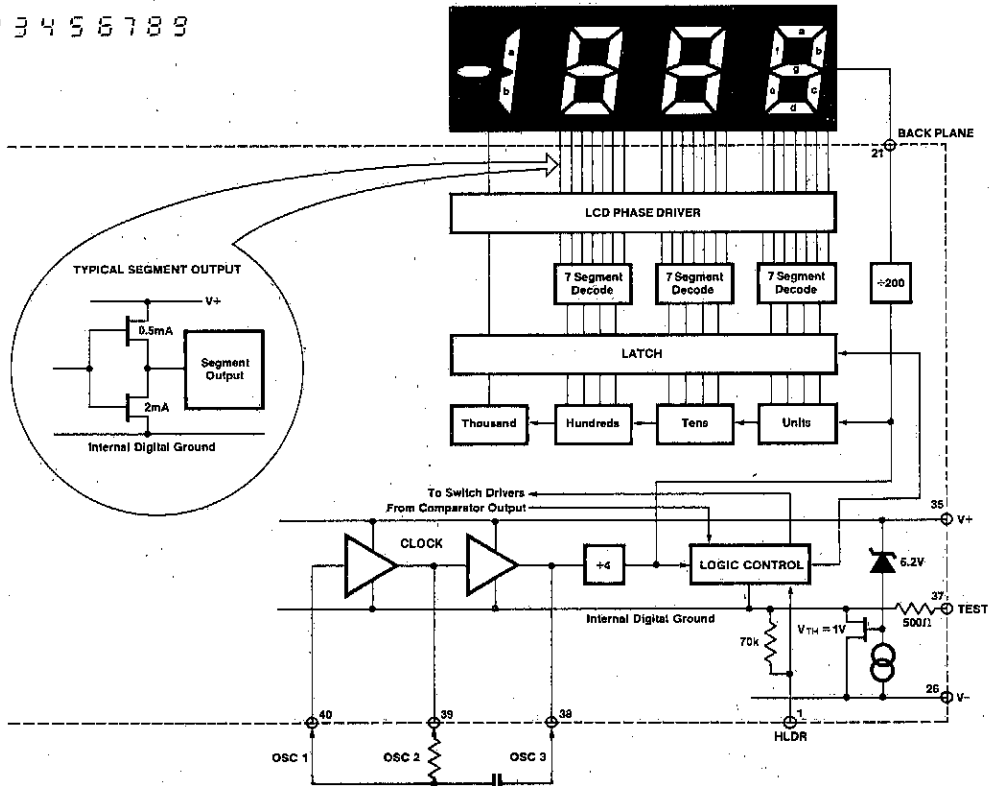

Figure 7: Digital Section 7116
Figures 7 and 8 show the digital section for the 7116 and 7117, respectively. In the 7116, an internal digital ground is generated from a 6 volt Zener diode and a large P channel source follower. This supply is made stiff to absorb the relative large capacitive currents when the back plane.(BP) voltage is switched. The BP frequency is the clock frequency divided by 800. For three readings/second this is a 60 Hz square wave with a nominal amplitude of 5 volts. The segments are driven at the same frequency and amplitude and are in phase with BP when OFF, but out of phase when ON. In all cases negligible DC voltage exists across the segments.